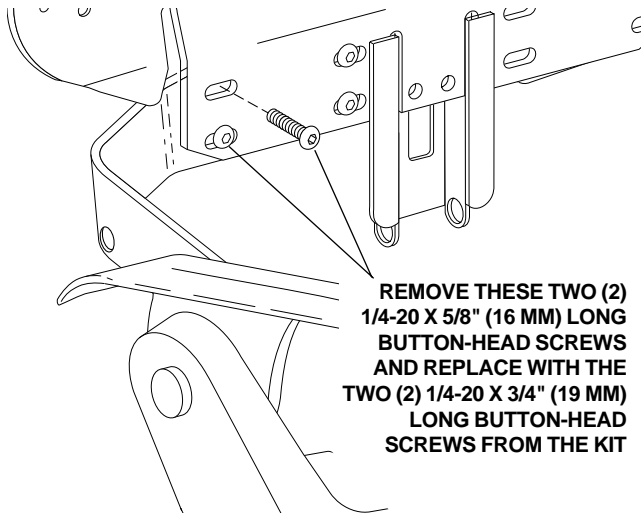

FIGURE 4
- Remove the two (2) 1/4-20 x 5/8" (16 mm) long button-head screws from the chair backrest bracket (see Figure 4) and replace with them two (2) 1/4-20 x 3/4" (19 mm) long button head screws from the kit.